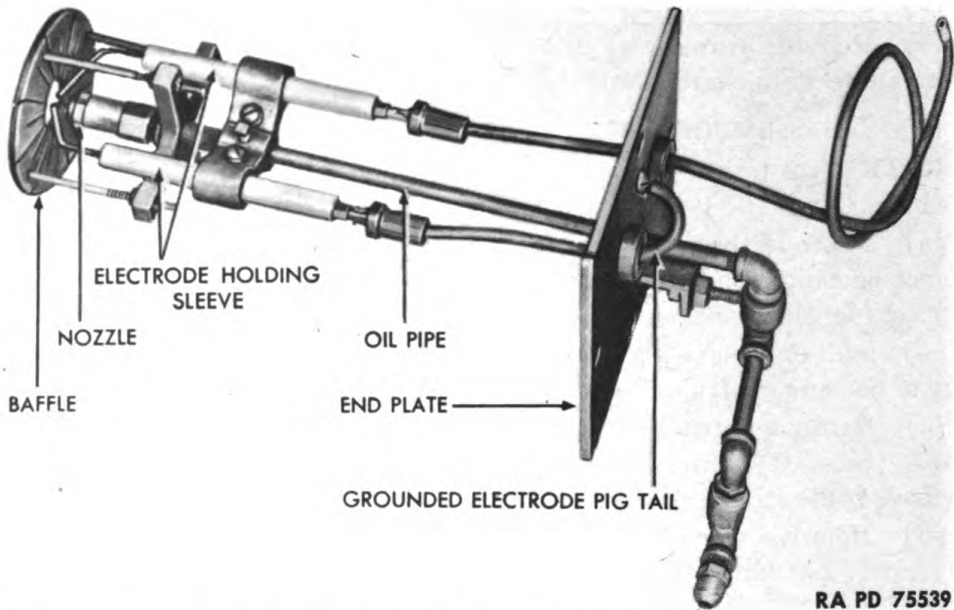

Figure 109 — Steam Generating Plant Electrode and Nozzle Assembly
(3) CLEANING NOZZLE SCREEN (fig. 109).
(c) Remove entire nozzle from oil pipe (fig. 109). To disassemble nozzle (fig. 110), remove tip. Screw screen from nozzle tip by hand. Remove baffle from tip.
(d) Remove the three screws which secure baffle to end of end cap frame. Lift baffle from frame (fig. 109).
(e) Remove screws which secure electrodes in holders. Remove screw which secures grounded electrode pigtail to end plate. Lift electrodes from end plate bracket (fig. 109).
(c) Install nozzle on end oil pipe. Attach baffle to end of electrodes and nozzle assembly (fig. 109).
(d) Place electrodes in bracket and tighten screws just enough to keep electrodes in position. Adjust position of electrodes, using metal shims between clamps and porcelain if necessary, to obtain opening of 0.100 inch between tips of electrodes, with gap aligned with nozzle opening and about $\frac{1}{4}$ inch from it. Tighten screws (fig. 109). Ground pig tail from grounded electrode to end plate.